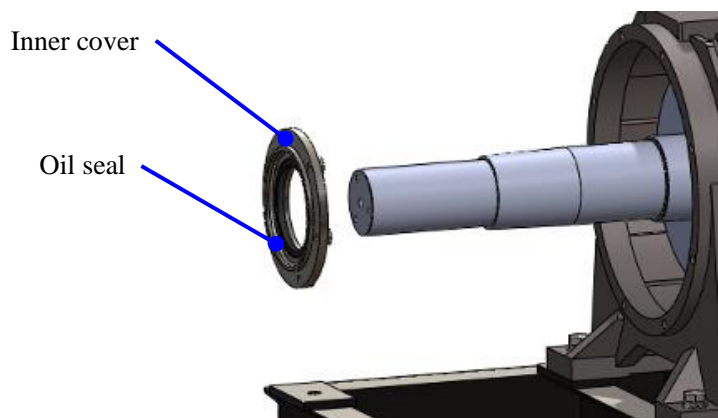

Figure 129: Remove and clean inner cover
9. Take off the inner cover and clean it. See Figure 129.